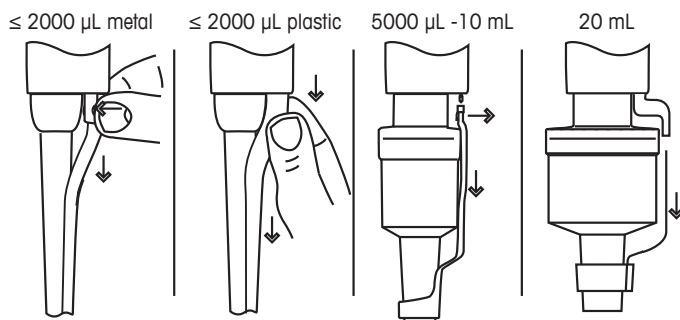

Figure 8: Removing Tip Ejector Arm
1. Remove tip ejector arm (See Tip ejector arm removal Figure 8).